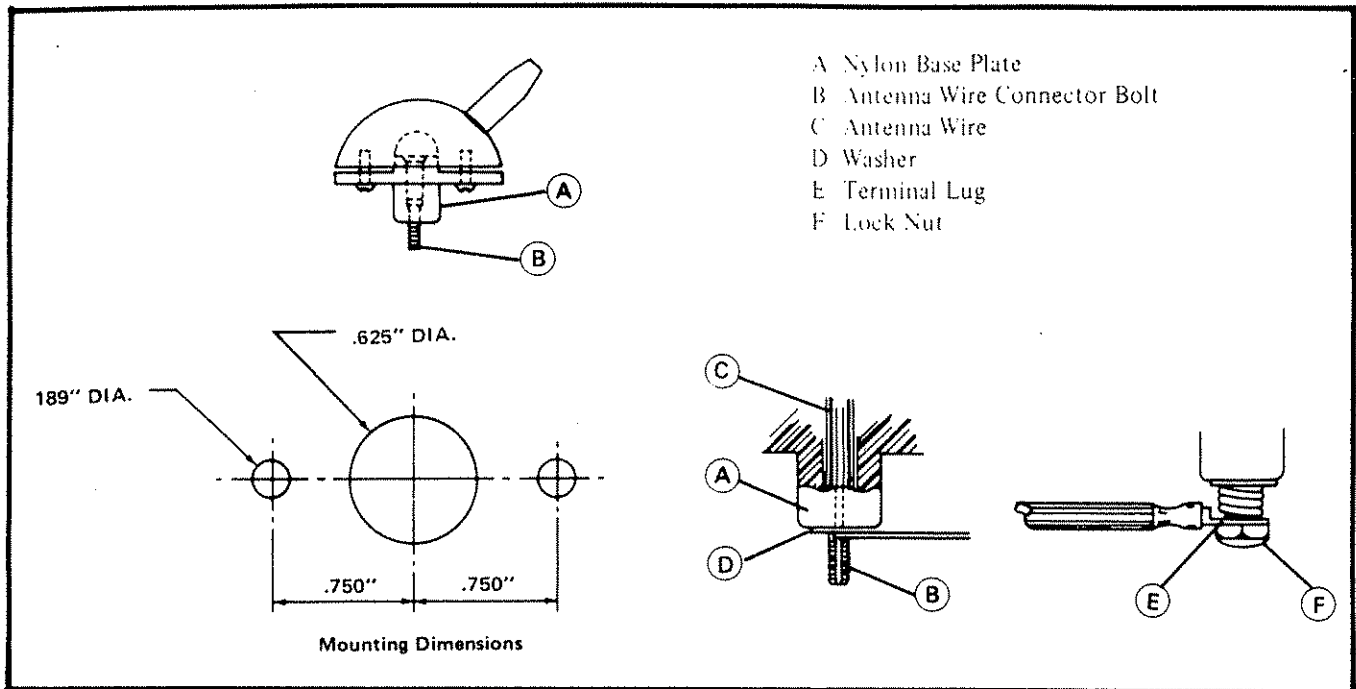

Figure 2.6 Feed-Thru Insulator
For proper installation of the Feed-Thru Insulator (PN0713080001, Item 1 of Table 2.1) refer to Figure 2.6 and the following text. Strip back polyethylene shield (C) to expose approximately 4" of antenna wire core. Insert core into connector bolt (B) and extract from slot. Insert washer (D) as shown. Wind wire around connector bolt (B) 3 1/2 to 4 turns. Install terminal lug (E) of antenna lead and secure with lock nut (F), as shown in Figure 2.6.